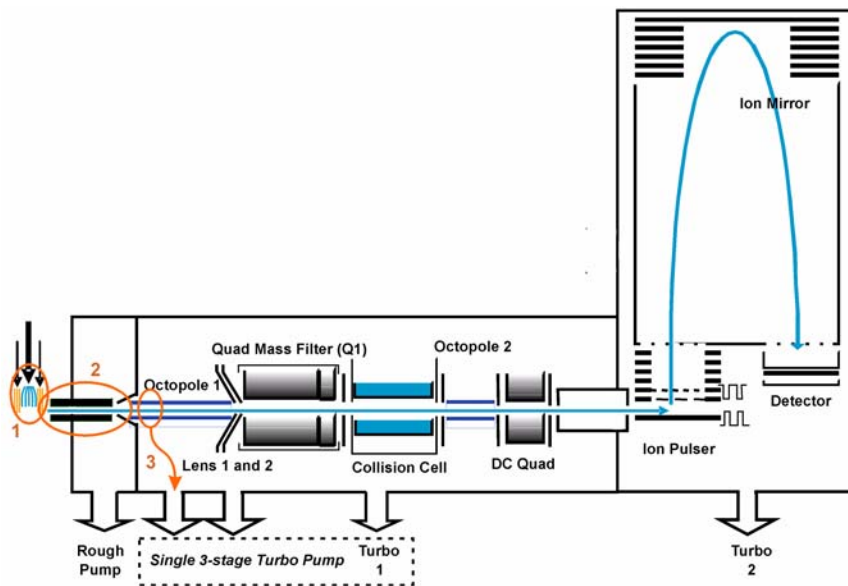

Figure 9 Schematic of Agilent 6530 Q-TOF LC/MS with major improvements circled
Figure 9 shows the complete Agilent 6530 Q-TOF schematic, with major improvements identified.
Ions are generated using an electrospray ion source where the analyte is simultaneously ionized and desolvated from the liquid matrix. The first of three (3) innovative Agilent enhancements is found in the application of Agilent Jet Stream Technology (denoted as 1 in Figure 9) which improves sensitivity via thermal gradient focusing and enhanced desolvation. This technology is described in detail below (“Agilent Jet Stream Thermal Gradient Technology” on page 33).
The desolvated ions then enter the mass spectrometer via an innovative resistive and highly inert capillary transfer tube (denoted as 2 in Figure 9) that improves ion transmission and allows virtually instantaneous polarity switching.
Further increase in ion transmission is obtained by improvement of the pumping speed in vacuum stage 2, resulting in better ion capture by the first octopole (denoted as 3 in Figure 9). The ions next pass through the optics and into the quadrupole analyzer. The quadrupole analyzer consists of four parallel hyperbolic rods through which selected ions based on their mass to charge ratio are filtered.